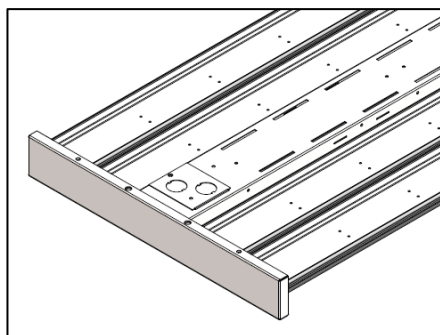

Figure 2
2. If necessary, open the access panel part shown in Figure 2 with the help of a square head screwdriver